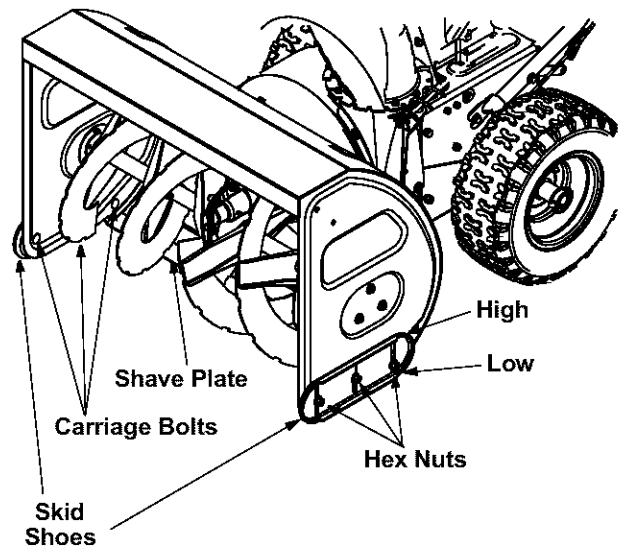

Figure 11
See Figure 11. Adjust skid shoes as follows:
- Remove the six carriage bolts, belleville washers and hex nuts which attach two skid shoes to the snow thrower on two sides. See Figure 11.